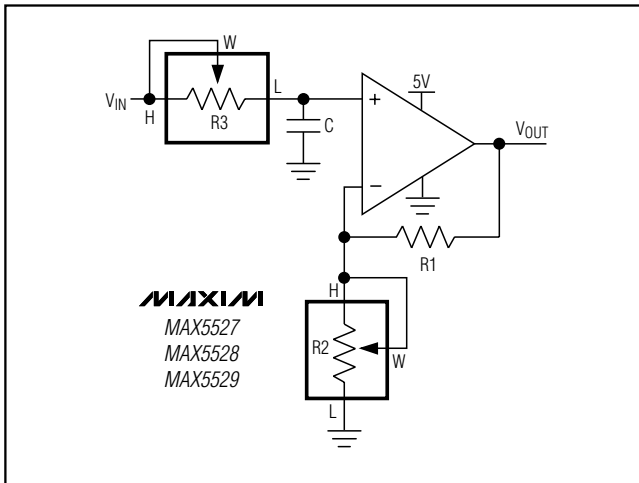

Figure 9. Programmable Filter
Figure 9 shows the configuration for a 1st-order programmable filter. The gain of the filter is adjusted by R2, and the cutoff frequency is adjusted by R3. Use the following equations to calculate the gain (G), and the -3dB cutoff frequency ( $f_c$ ), only up to frequencies one decade below the wiper -3dB bandwidth.